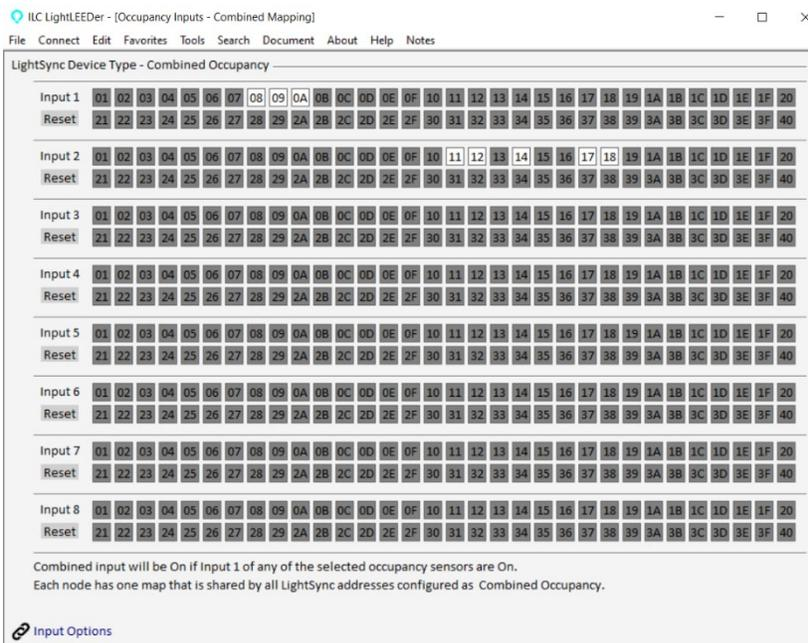

Figure 6 – Occupancy Inputs – Combined Mapping
- G. For rooms with multiple sensors such as a corridor, large office or classroom you will want to combine the sensors into one input. Go to Edit, Switch Inputs, then **Occupancy Inputs – Combined Mapping**. This page will allow you to use all 8 possible inputs of a single LS device, as shown in Figure 6. This will allow the user to combine any number of LightSync device’s input 1 as a single control point and assign them to one of the 8 inputs of the virtual device. Any input in the combined set of sensors that closes is considered an On command, all combined inputs must be Off or open before an Off command is sent.